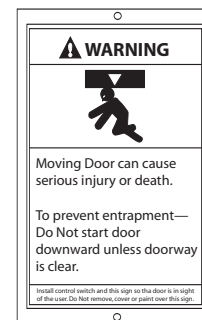

Figure 4A
- Attach the Warning placard adjacent to the Wall Control. **Fig. 4A.**